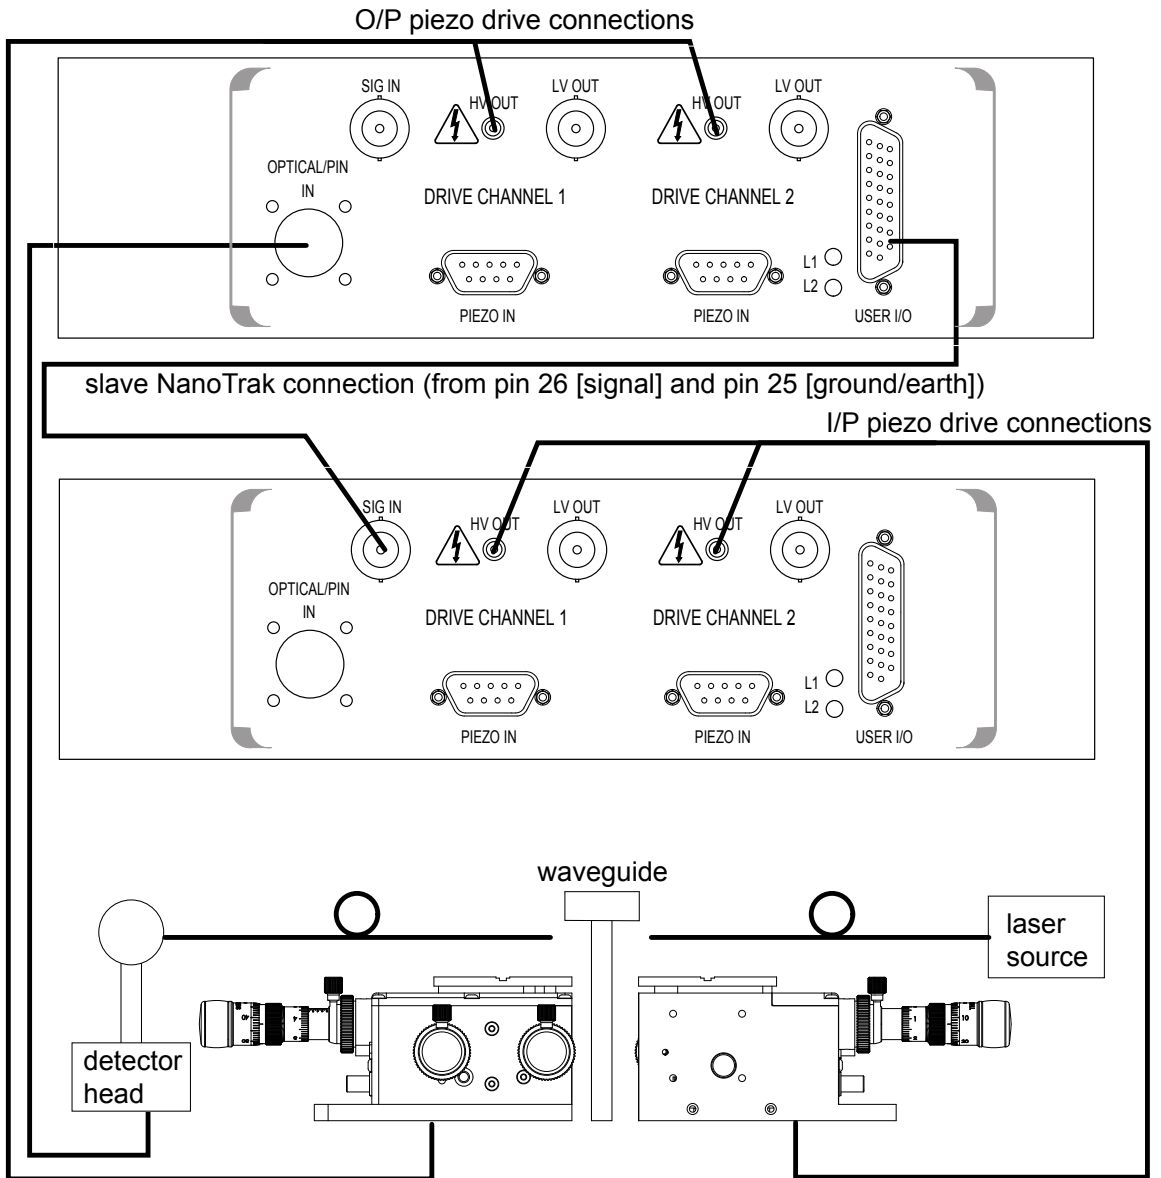

Fig. 4.8 Dual NanoTrak connections
The NanoTrak scanning process uses a single frequency (and a highly selective discriminator similar to a radio receiver) and it is possible to use more than one NanoTrak controller in a single optical path (and with a single detector). For example, with two control units set to different scanning frequencies (e.g. 30 Hz and 50 Hz) it is possible to couple fibers both into (master NanoTrak) and out of (slave NanoTrak) an integrated optical device such as a waveguide – see Fig. 4.8. The scan frequency and input source can be set either via the application software (see *Kinesis Server Helpfile*) or directly via the Settings panel – see Section 4.6.
- 1) Make connections as shown in Fig. 4.8. - see Section 5.2.2. for USER I/O pinout details.
- If using the internal power meter, the detector output is connected to the OPTICAL/PIN connector on the master unit and the signal to the slave NanoTrak must be routed from the master USER I/O connector to the slave SIG IN (see Fig. 4.8). If using an external power meter, a T-splitter must be used on the SIG OUT connector of the master NanoTrak.